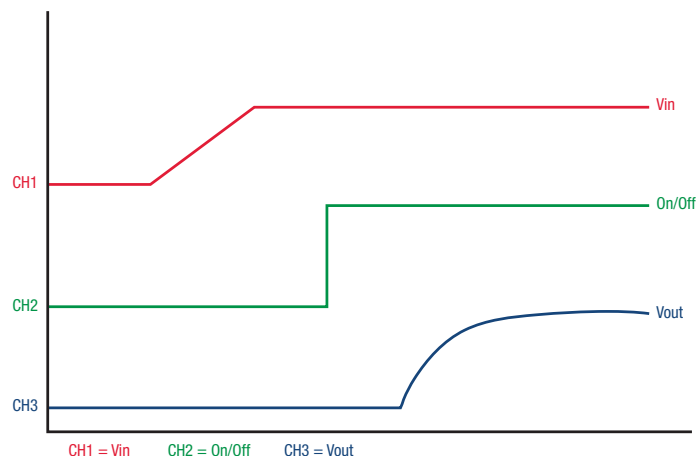

Figure 3. Typical Turn On for Positive Logic Modules
- When V_{in} has reached steady state, apply control signal to the all modules. Figure 3 illustrates the turn on process for positive logic modules.